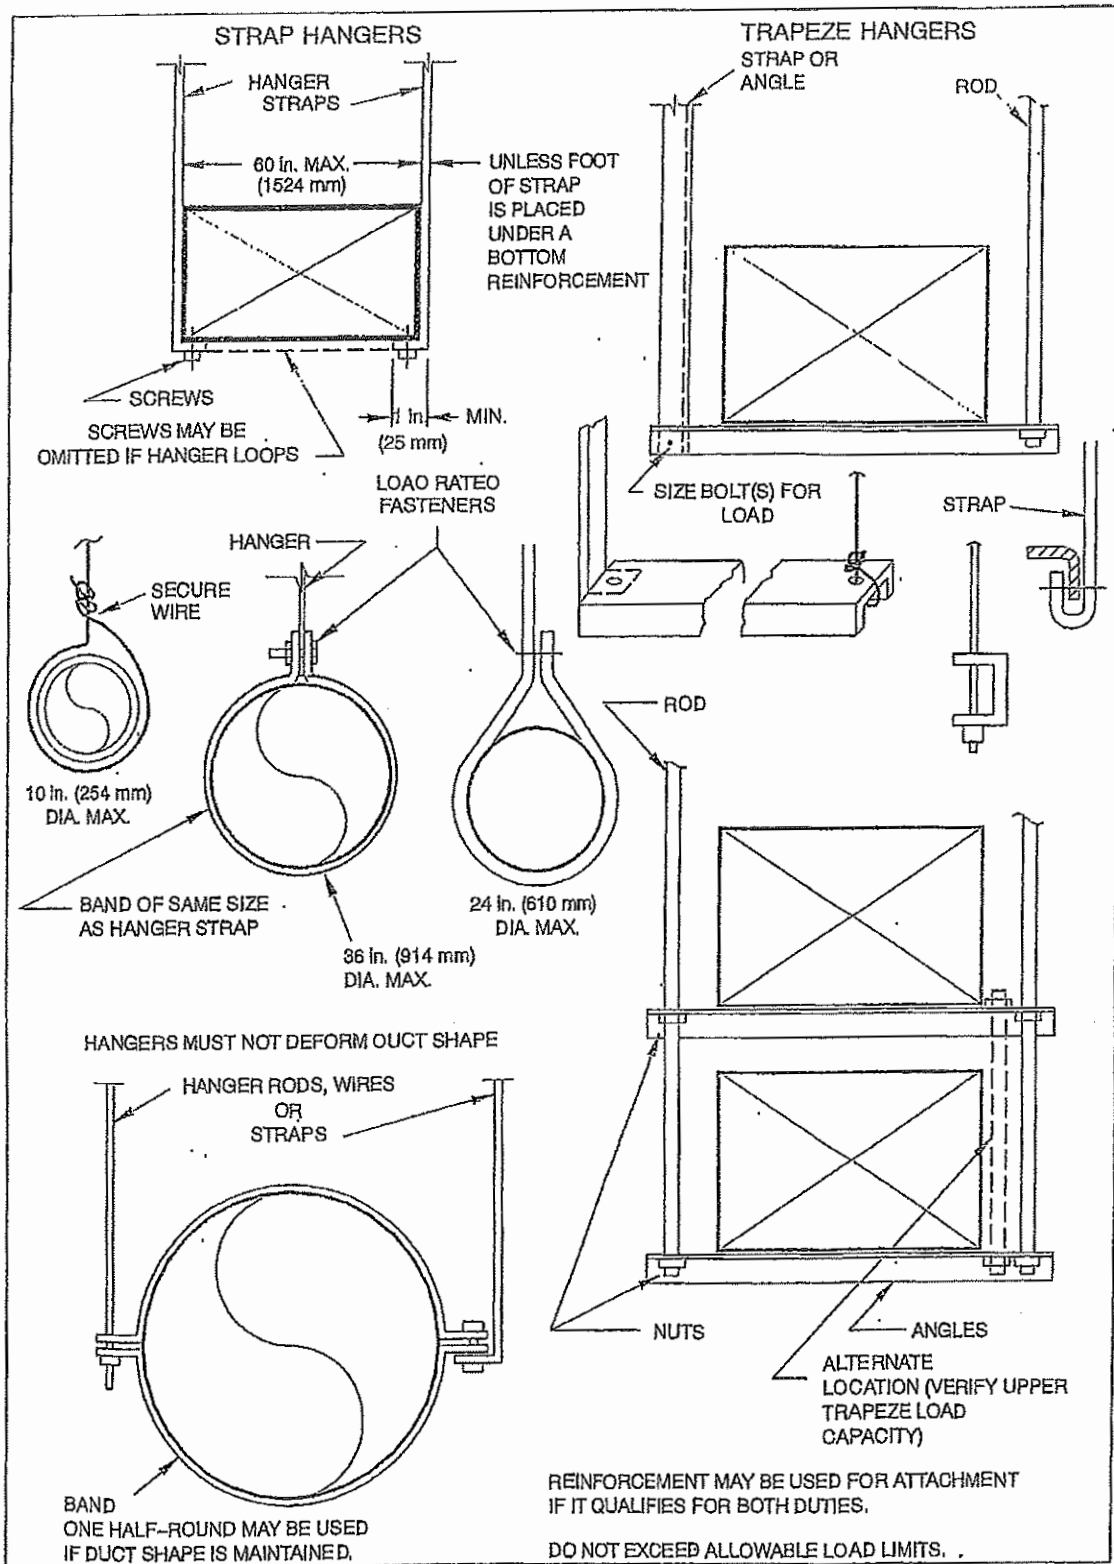

FIGURE 5-5 LOWER HANGER ATTACHMENTS
- For lower attachments see Fig. 5-5.
- See Figure 5-5 for lower supports.